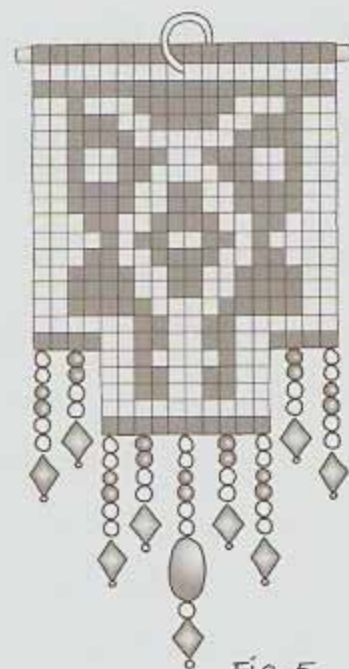

Fig. 5
5. Thread on any beads that you desire on this middle strand ending the strand with a small seed bead (see Figure 5 for a suggested beading pattern). Bypass the bottom seed bead and pass the needle back up through all the beads and again through some cord at the back of the bottom row. (It's only necessary to catch a small amount of cord when passing the needle through.)